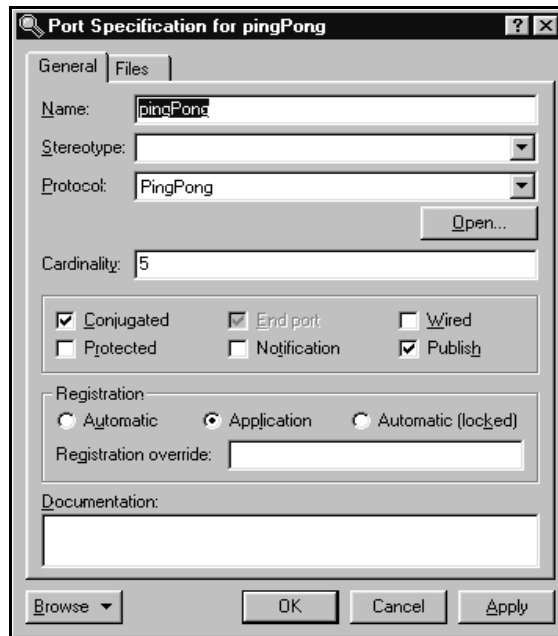

Figure 29 Changing port specifications for Pong
3. Uncheck the **Wired** option as shown in Figure 29.